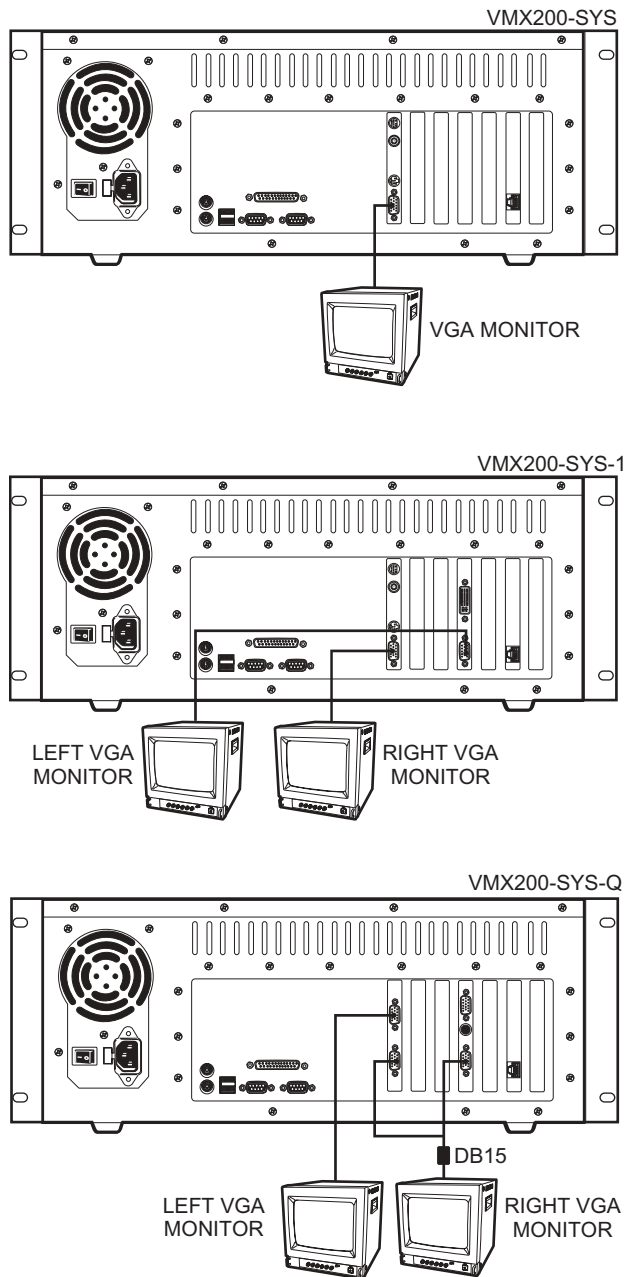

Figure 6. Monitor Connections
** Refer to the monitor connection details in Figure 6.
If you have the VMX200-SYS model, you have to connect only one monitor. The VMX200-SYS-1 and VMX200-SYS-Q each require two monitors. Refer to Figure 6.